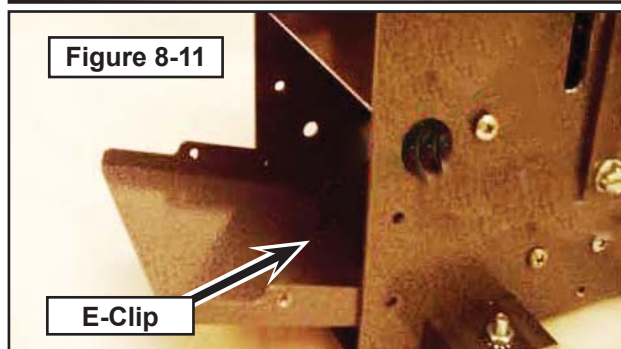

Figure 8-11
4. Remove four (4) screws from front cover.
5. Remove front cover (**Figure 8-11**).